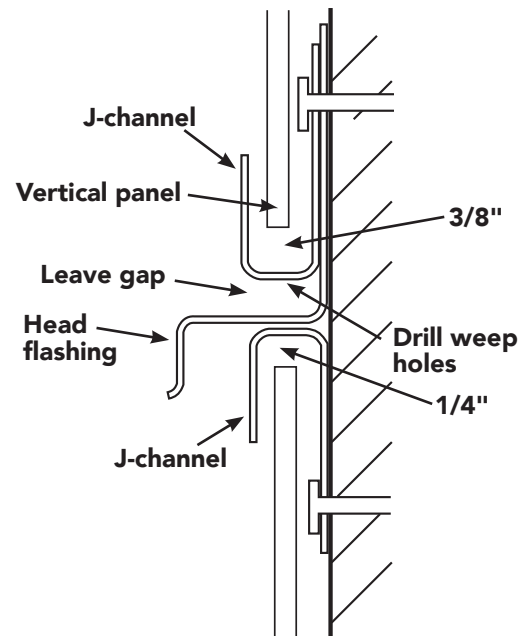
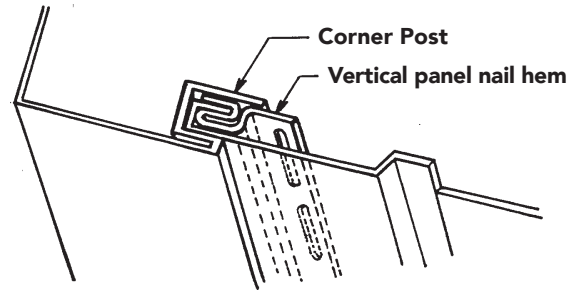

Figure 59
Figure 60
- If it will take more than one course to span the height of the house, terminate the first course into an inverted J-channel (Figure 59), allowing 1/4" (6.4mm) for expansion. Install head flashing on top of the J-channel and install a second J-channel facing upward. Begin the second course leaving a 3/8" (9.5mm) gap from the bottom of the panel to the J-channel.
**NOTE:** It is necessary to drill weep holes in the upper J-channel that are a minimum 3/16" (4.8mm) in diameter no more than 24" (610mm) apart (Figure 59).
- If you are starting with a full vertical siding panel, you can create a starter strip for vertical siding by cutting the nail hem and adjacent lock off a vertical siding panel. Fasten it inside the receiver channel of the corner post. Another option is to use a standard starter strip. Leave enough clearance in the pocket of the corner post to allow the siding panel to be attached (Figure 60).
- Begin by fastening J-channel along the inside edge of the roof. Install an upward-facing J-channel as a vertical base on top of the previously installed J-channel at the base of the gable, as shown in Figure 59. As an alternative, install back-to-back J-channels, centered with the peak of the gable. Install a cut nailing hem as a starter-strip in each J-channel, as described above (Figure 60).